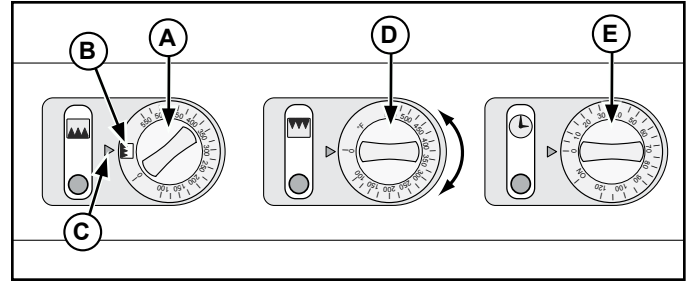

Figure 3. 40703 and 40701 Controls set for the Browning Function.
- Switch the bake control  knob (A) to the brown function icon  (B) to the indicator (C). See Figure 3.
- Set the brown control  knob (D) to the desired temperature. The timer control (E) does not need to be used for the browning function to operate.